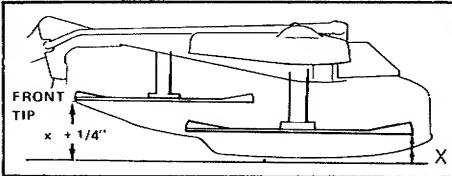

Figure 36. Levelling Mower
note that measurement. (See figure 36).
4. Measure the distance to the ground from the rear tips of the left and right blades. Compare these measurements with the measurement from the front tip of the center blade. The front tip of the center blade should be $1/4$ inch (6 mm) higher than the rear tips of the side blades (figure 36).